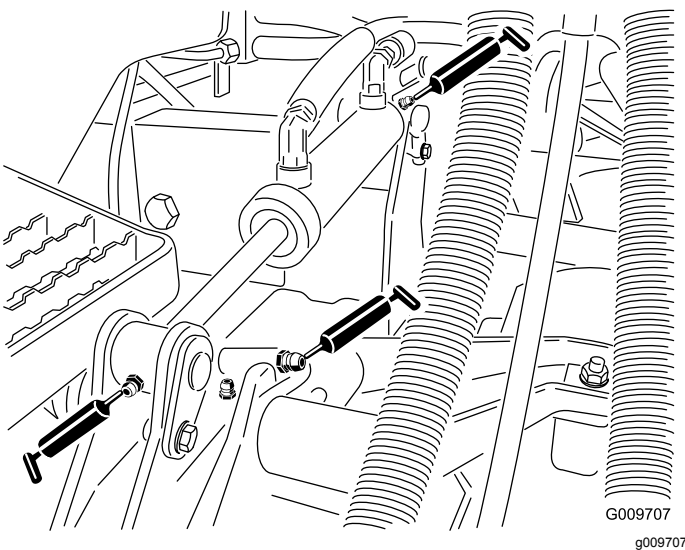

Figure 51
- Lift-arm bushings (1 per deck) (Figure 51)
- Lift-cylinder bushings (2 per deck) (Figure 51)